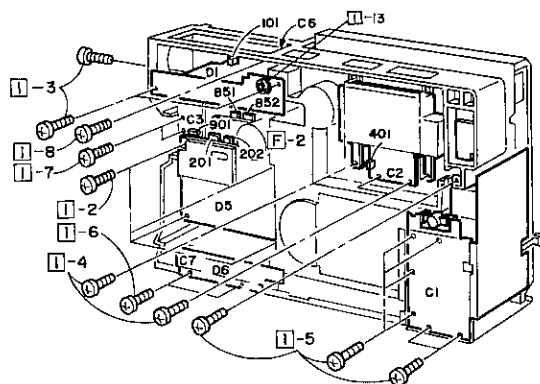

Figure 5-3
2. Pull out four sockets (CNS201, CNS202, CNS851, CNS852) shown in Figure 5-3.
- Remove three screws and one socket (CNS101) from the P.W.B. shown in Figure 5-3, and take it off.
- Remove one socket (CNS401) and six screws from the PWB and heat sink shown in Figure 5-3, and take the P.W.B. (with heat sink) off.
- Remove seven screws from the power block shown in Figure 5-3, and take it off.
- Remove two screws from the bracket shown in Figure 5-3.
- Remove one socket (CNS901) and two screws from the P.W.B. shown in Figure 5-3, and take it off.
- Remove one socket (CNS101) and one screw from the P.W.B. shown in Figure 5-3, and take it off.
- Remove two hooks from the antenna terminal bracket, shown in Figure 5-3, and take it off.